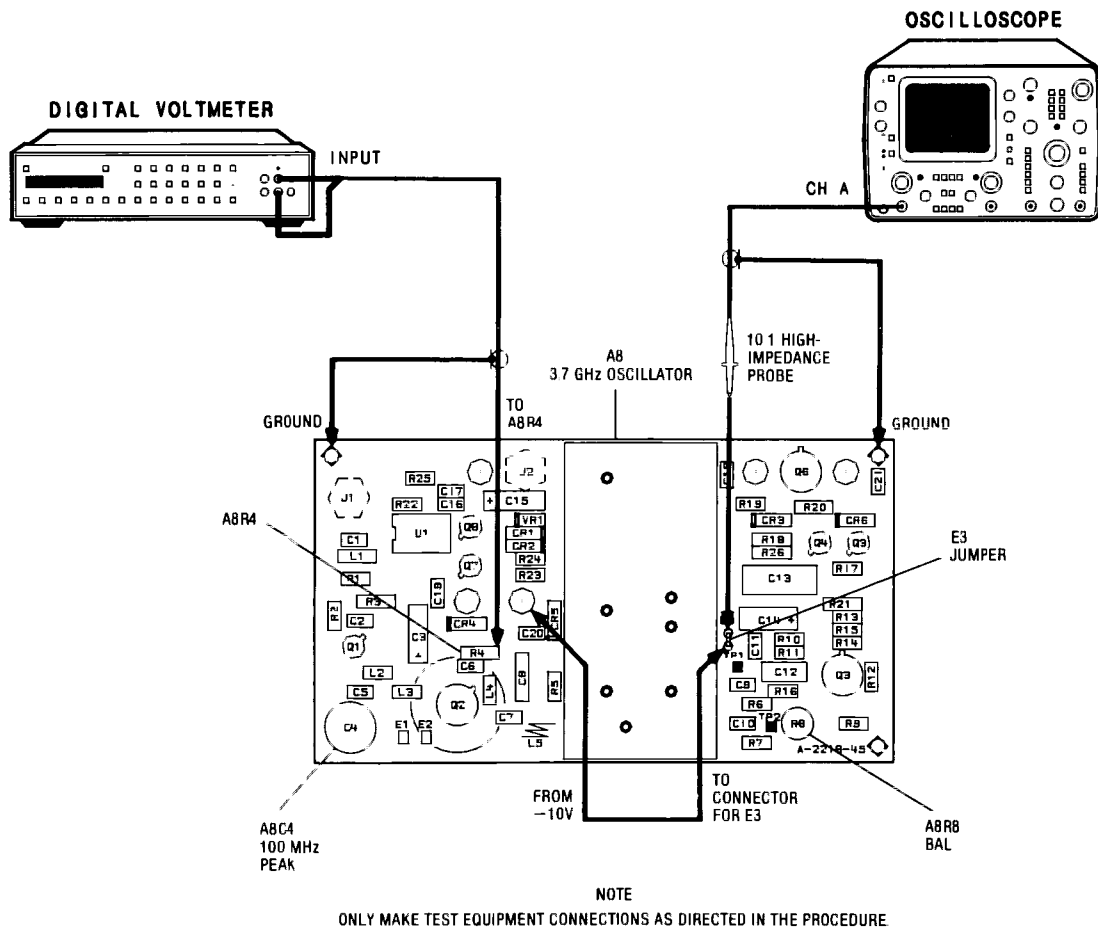

Figure 5-33. A8 3.7 GHz Oscillator Test Setup
1. Connect the DVM to A8R4 as shown in Figure 5-33.
4. Remove the Jumper A8E3. Connect a jumper from the -10 volt terminal to the lower connection point for E3 as shown in Figure 5-33. (This applies -10 volts to the oscillator.)
5. Connect the Oscilloscope 10:1 high-impedance probe to the upper connection point for E3 as shown in Figure 5-33. Switch the DUT on.